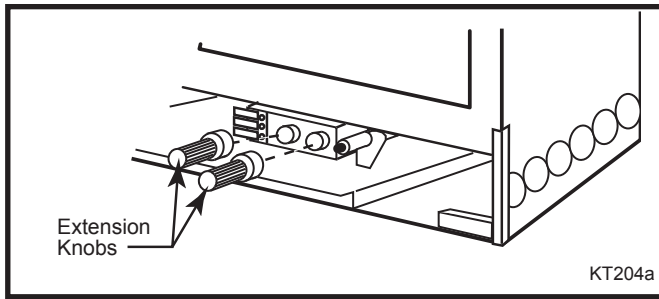

Fig. 64 Install the knob extensions. (RN/RP models Only)
- c. Install the Control Knob Extensions onto the appropriate Control Valve Knobs. (Fig. 64)
On units fitted with a Honeywell brand control valve the location of the control knobs and the ignitor button may vary slightly from those shown in Figure 64. The Honeywell extension pieces are visually different in design and are not interchangeable with the RN/RP knobs shown in Figure 64.